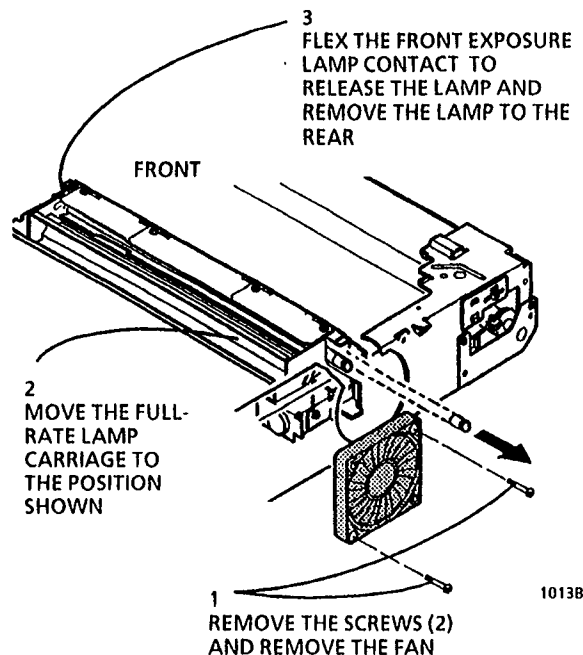

Figure 1. Removing the Exposure Lamp (DS1)
4. (Figure 1): Remove the exposure lamp.